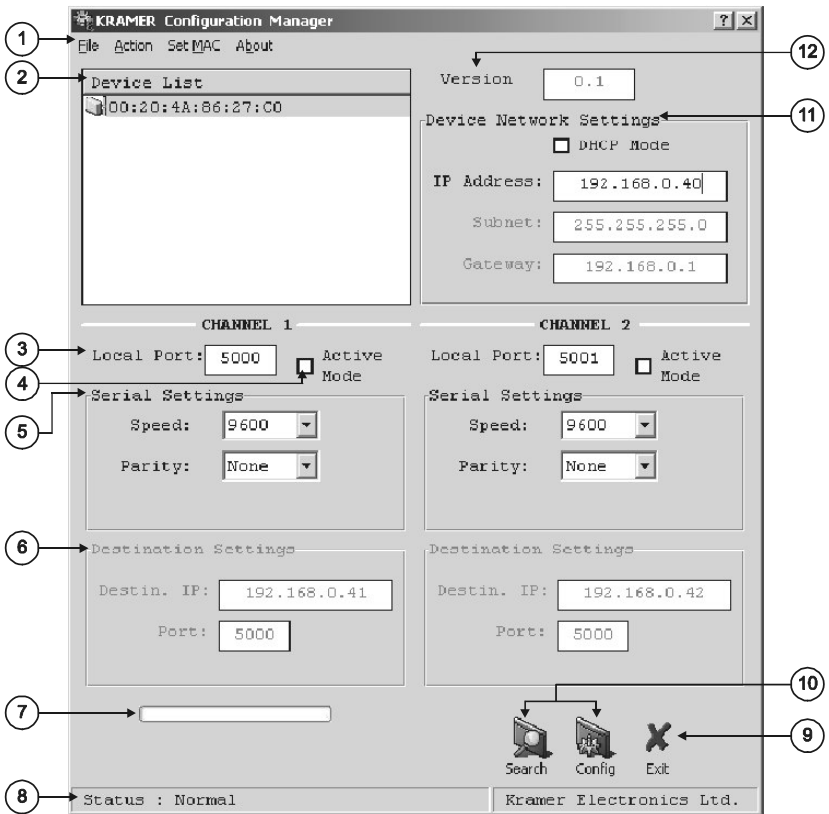

Figure 7: FC-10ETH Configuration Manager Window
3. Click the appropriate shortcut in the Start menu's Programs folder. The **FC-10ETH** Configuration Manager window (see Figure 7) opens.
Figure 7 and Table 5 define the **FC-10ETH** Configuration Manager window: